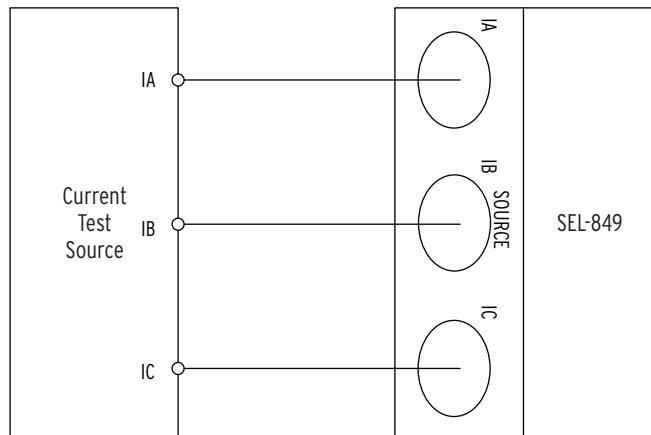

Figure 10.3 Current Source Connections
Step 1. Connect the current source to the relay, as shown in *Figure 10.3*.
- Step 1. Connect the current source to the relay, as shown in *Figure 10.3*.